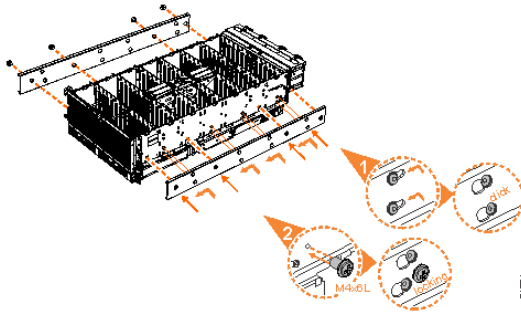

Figure 52. Attaching the inner rail section to the enclosure
5. Install the inner section of the rail onto each side of the expansion enclosure, as shown in Figure 52 on page 82.